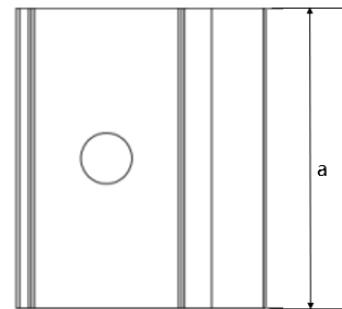
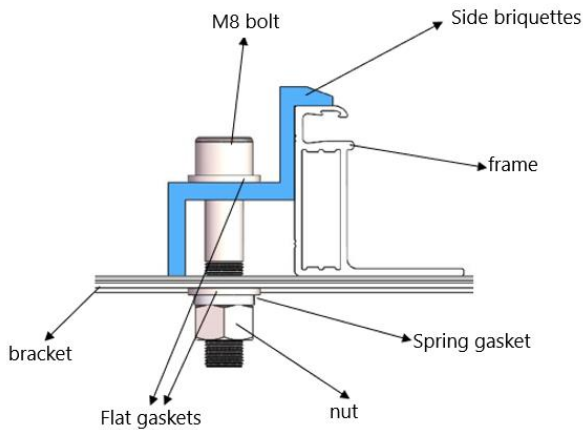

Figure 14 Top view of fringe clamp
Figure 16 Installation schematic diagram of fringe clamp
- ③ The top surface of the rail contacted with module frame should be equipped with grooves compatible with an M8 bolt.
- ④ If the grooves are not provided, holes of a suitable diameter may need to be drilled to allow bolts attaching to the rail at the same locations as mentioned above.
- ⑤ Ensure that the mounting sequence of each clamp is in the order of flat washer, spring washer and nut.
- ⑥ Figures 14 and 15 show the schematic diagram of the clamp, while Figures 16 and 17 show the installation schematic diagram of the clamp. The dimensions of the clamp are  $a \geq 40$  mm,  $b \geq 16$  mm,  $c \geq 5$  mm,  $d \geq 8$  mm,  $e \geq 15$  mm,  $\varnothing = 9$  mm, and the thickness of the clamp is  $\geq 3$ mm. For module of 182/210mm-wafer, the size of mid and fringe clamp must meet  $a \geq 60$  mm. The tightening torque is suggested to be 17~23Nm for Class 8.8 screw and bolts.